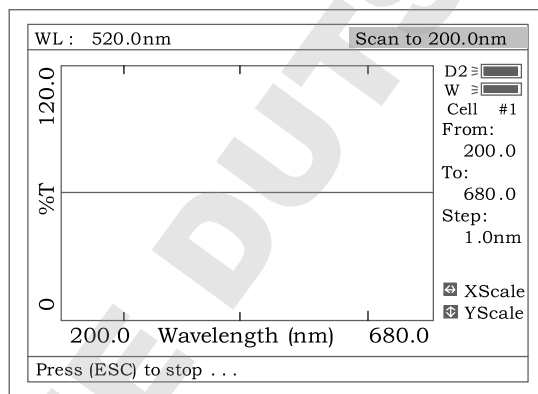

Fig 43
3. Push the blank cuvette into the light path, press **【0Abs/100%T】** to scan the base line (Fig 43). Press the key **【ESC】** to stop scanning;